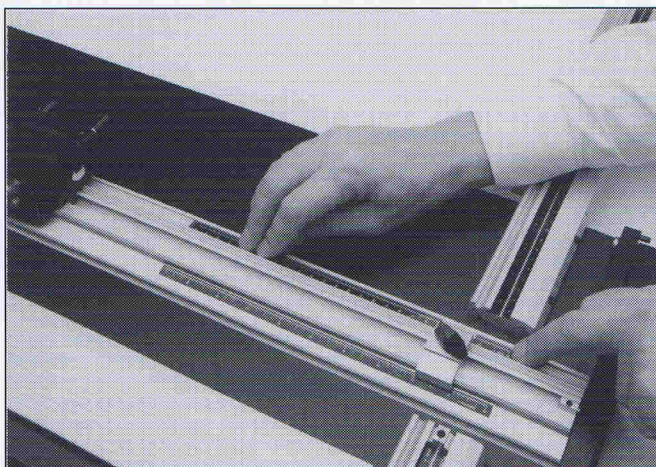

Fig. 5
7. If the reading on the end-of-cut scale is not precisely the same as the corresponding measurement on the mountboard, re-calibrate the end-of-cut scale by sliding it within the slideway until the reading at the end-of-cut stop coincides exactly with the above measurement (fig.5). **DO NOT** move the end-of-cut stop.
- NOTE: The vertical blade can be locked in the up or down position simply by twisting the vertical blade locking handle (fig. 5).**